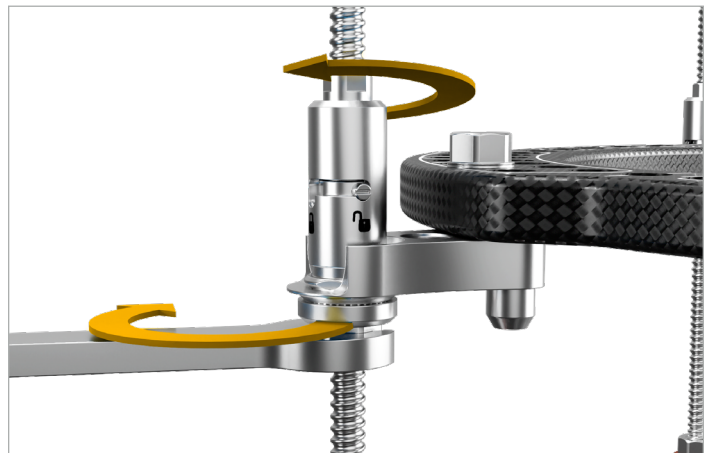

Figure 191
- Unlock each of the four quick-release mechanisms on the moving ring mounting arms by aligning the quick-release locking pin in the unlocked position. **(Figure 191)** Once unlocked, the moving ring can be grossly adjusted into position.